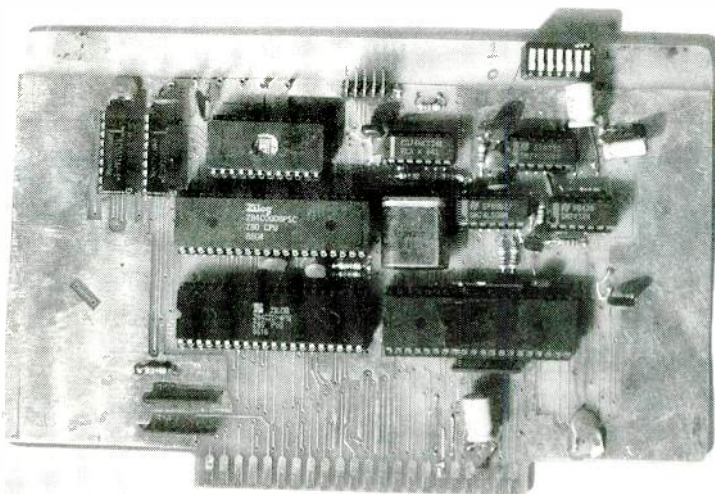

FIG. 8—FULLY ASSEMBLED CPU BOARD.
• **Separate fixed-positive and adjustable-positive supplies from a car battery.** Figure 8 assumes that you use a standard +5-, +6-, or +8-volt regulator for IC1, and an adjustable version for IC2; the output of the second regulator is adjusted by R1 and R2. The accompanying table in Fig. 8-d gives V_2 to within 50 millivolts for different values of R1 and R2, but you can also use the previous formula.
FIG. 8—REGULATING THE VOLTAGE FROM a car battery; the assumption is that IC1 is a standard +5-, +6-, or +8-volt regulator, and that IC2 is adjustable, but set to a non-standard value by R1 and R2. The accompanying table in (d) gives V₂ to within 50 millivolts for different values of R1 and R2, but you can use the formula given in the text.